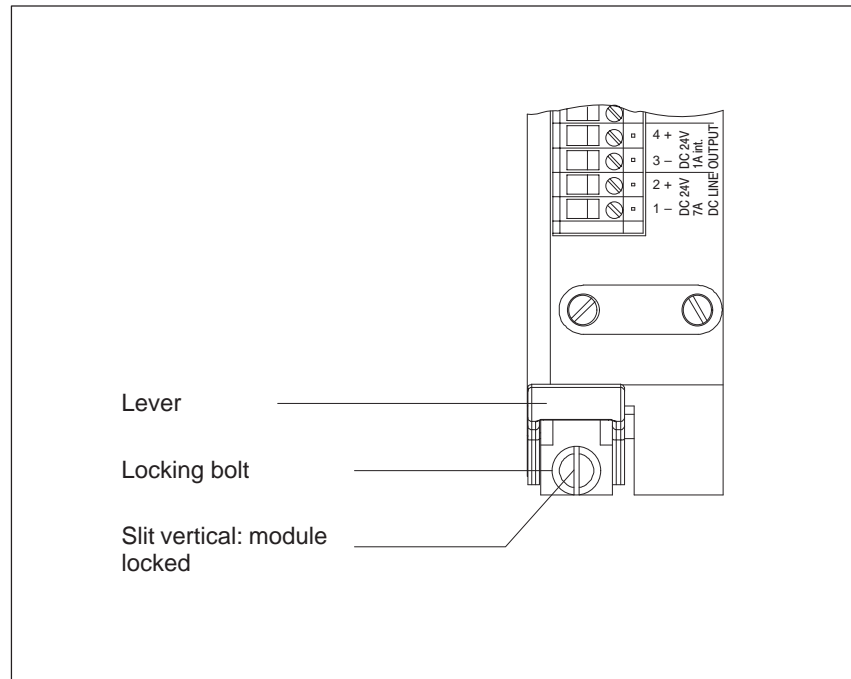

Figure 3-4 Front View of the Power Supply Unit, Locking Mechanism
4. Lock the power supply unit by turning the locking bolt with a suitable screwdriver by 90°: the slit should be in a vertical position (see Figure 3-4).
6. Undo the locking bolt of the power supply unit by turning it with a suitable screwdriver by 90°: the slit should be in a horizontal position (see Figure 3-4).